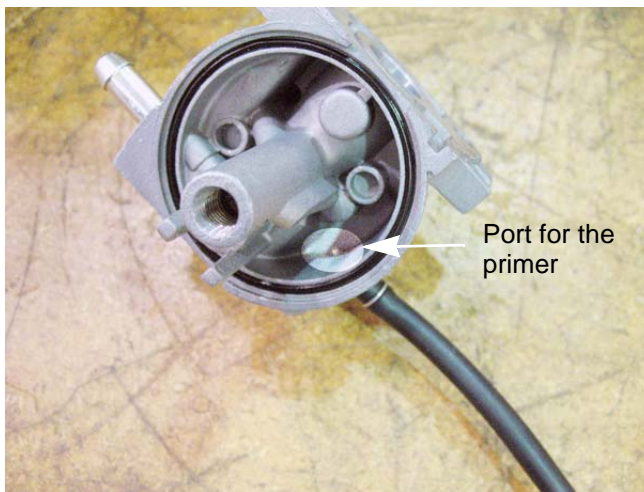

Figure 4.43
**NOTE:** A primer carburetor will have an additional port so that the air from the primer bulb can enter the float chamber. See Figure 4.43.